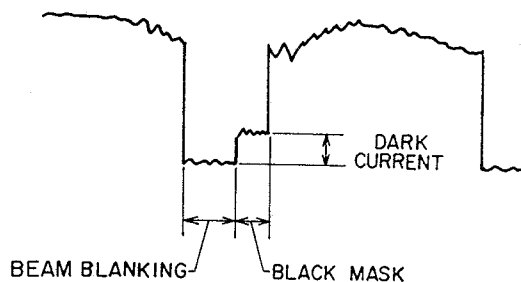

Fig. 5-18
The reverse current ( $I_{sh}$ ) of a photodiode increases in step with the increase of incident light. (See Figure 5-18.) If the amount of incident blue (OUTDOOR) light increases, the output voltage ( $I_{sh} \times R_2$ ) at pin ⑥ of IC1 increases. (See Figure 5-19.) This voltage is routed through a voltage follower (IC2) and is then compared in a comparator (IC6) with the output voltage derived from the incident red (INDOOR) light. In this case, since the blue (OUTDOOR) detection level is higher, the output at pin ① of IC6 goes to "H" and TR14 is activated. Pin ⑩ of IC7 also goes to "H" and then pin ⑨ goes to "L". As a result, R80 goes to GND and the gain of the RED stimulation amplifier is increased. In this manner, the differ-